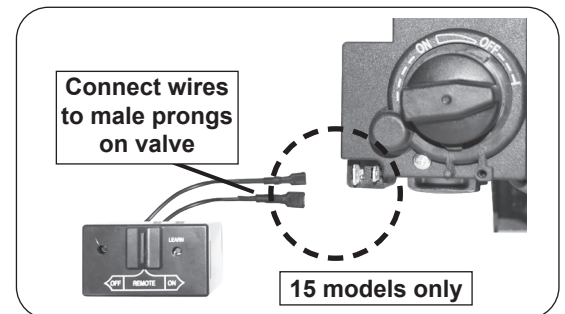

Fig. 17-3 Connect remote to valve (if applicable)
2. Locate the wires coming off of the remote receiver, and connect them to the two male prongs found on the valve (see Fig. 17-3).